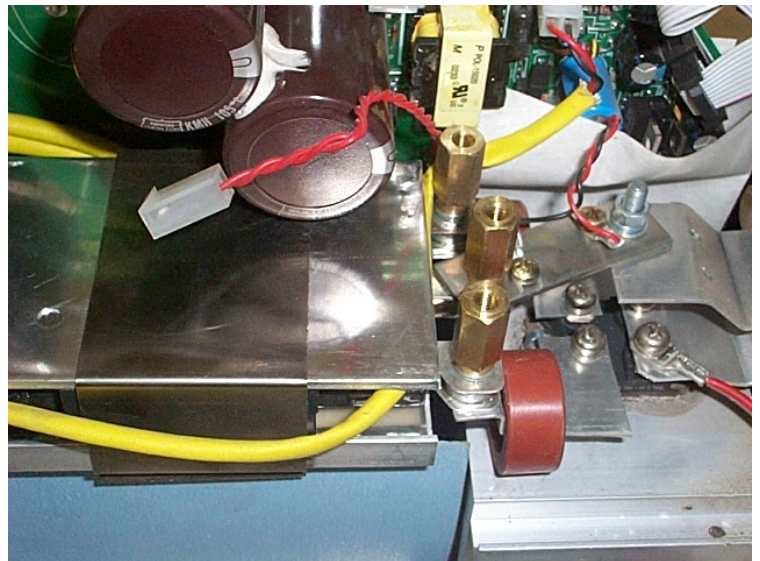

Fig 3 Component Layout
10. Fit the transformer into position so that its front edge is approx 1-2 mm away from the front edge of the main heatsink, and its near edge is flush against the near edge of the main heatsink. Fig 3 shows the correct position.
13. If necessary, reshape the aluminium busbars so that they have 90° bends as per Fig 3, then fit the right one back onto the right transformer terminal with the 4mm bolt.